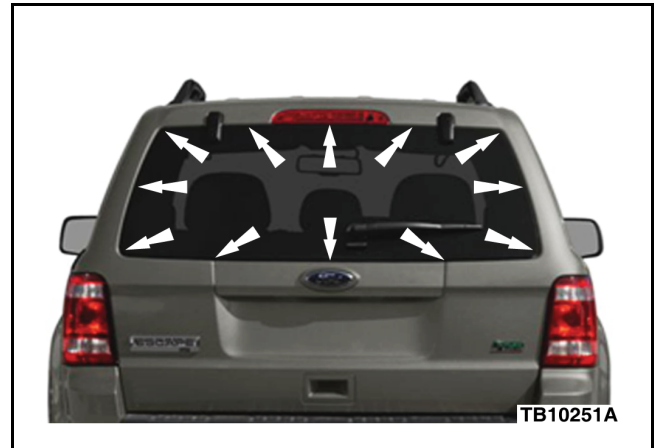

Figure 1 - Article 12-2-2
8. Using one of the preferred methods below measure and record the gap between the liftgate flange and liftgate glass at twelve (12) different locations as shown. (Figure 1)
- (1) Use any type of soft modeling clay and insert softened balls of clay in twelve (12) locations. (Figure 1).
- (2) After the clay is firmly in place, close the liftgate glass until it latches. Making sure not to slam glass, causing the clay to not read the correct height dimensions.
- (3) Raise glass, and measure the depressions left in clay and record. (Figure 1)
- (4) Remove clay pieces one at a time, use a marker and make a dot on sheet metal of each location where you measured.
- (2) Use a metal ruler or equivalent to measure and record the gap between the liftgate flange and liftgate glass in twelve (12) locations as shown. Use a marker to indicate where each measurement was made. (Figure 1)